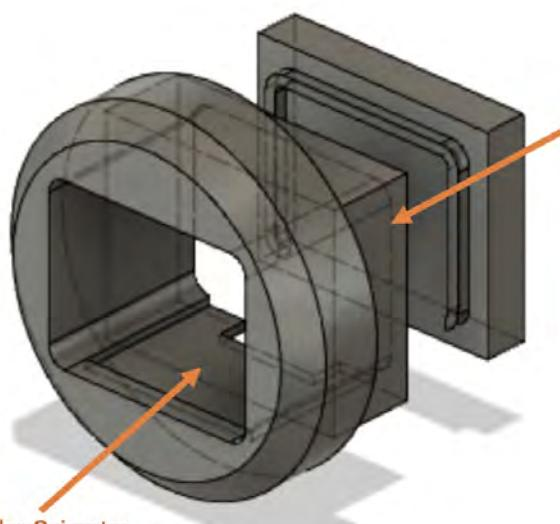
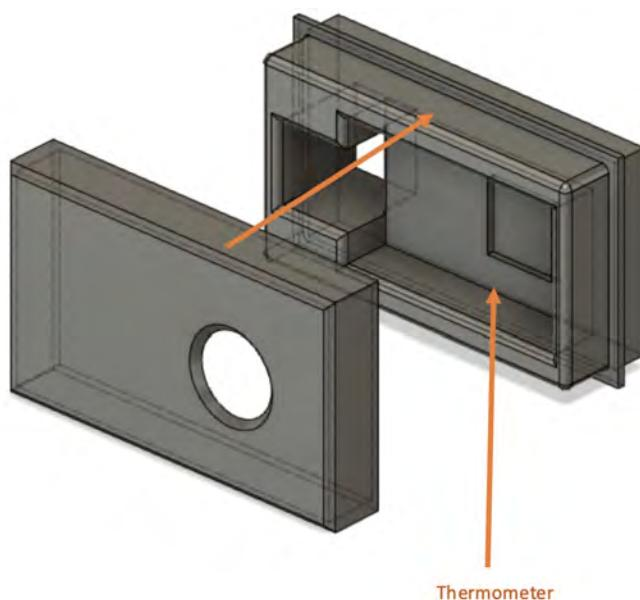
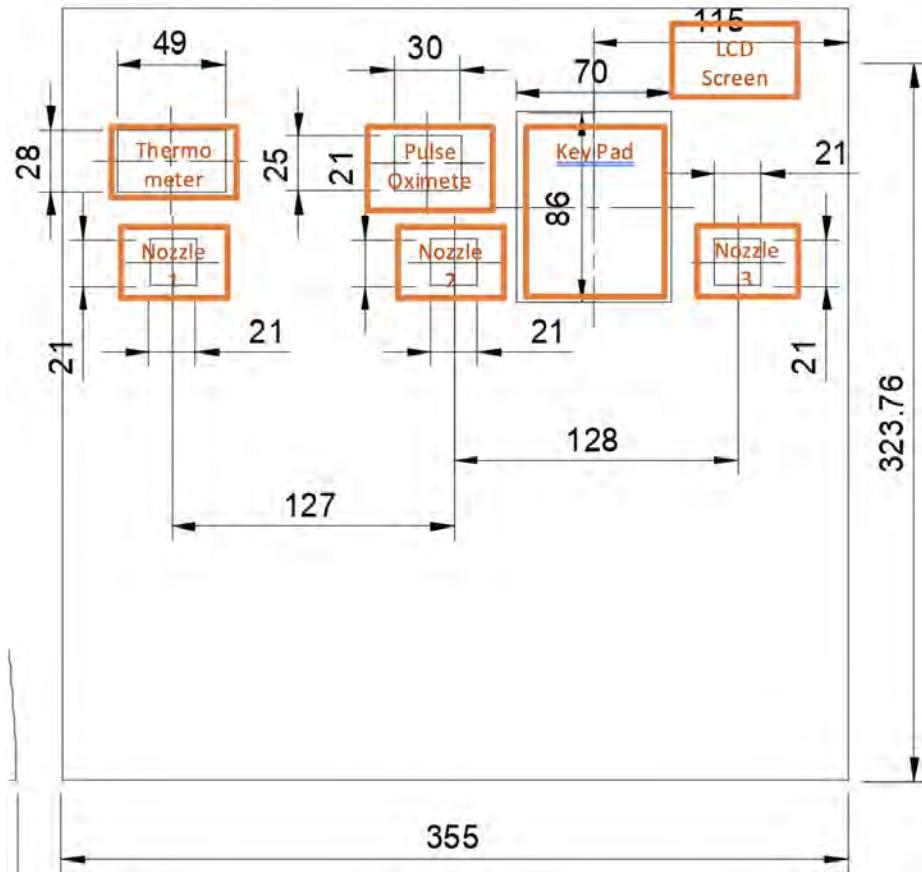

Fig. 53 (Pulse Oximeter mount assembly)
Fig. 54 (Thermometer mount assembly)
Fig. 55 (Sentinel front face layout)
13. Mount external hardware- This step will require all the parts printed in Step.11 as well as the Pulse Oximeter, Thermometer, Keypad, and LCD screen. Start by assembling the Pulse Oximeter mount, take the Pulse Oximeter and glue it onto the 1mm deep cavity in the mount, run the wiring through the notch in the back of the piece. Next glue the back cover of the Pulse Oximeter mount onto the mount, reference (Fig. 53). Next Assemble the Thermometer mount, glue the thermometer into the thermometer mount. Finally place the top cover for the thermometer mount over the whole assembly, the hole in the cover should line up with the sensor, reference (Fig. 54) for placement. Assemble the Keypad mount, first glue the Keypad onto the Keypad mount and run the wiring through the rectangular cavity in the keypad mount. Next place the Keypad Cover over the mount and glue in place. Finally assemble the LCD mount, using double sided tape in order to avoid fogging secure the LCD screen onto the mount, lining up the rectangular posts on the screen with the rectangular notch in the screen mount. Place each Hand Sanitizer Nozzle, run the 7/16" tubing through the nozzles. For placement of each component reference (Fig. 55). The Pulse Oximeter mount, Thermometer mount, Keypad, Hand Sanitizer Nozzles, are placed externally using super glue, and the LCD screen mount is placed internally using double sided tape. Reference (appendix. 8) for wiring